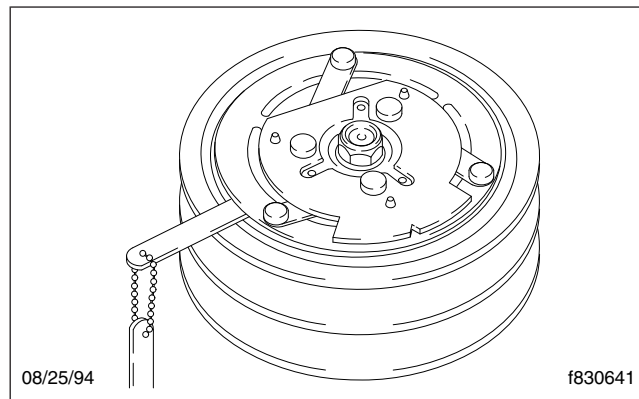

Fig. 1, Drive Plate Clearance Inspection
4. On a Sanden A/C compressor, use a feeler gauge to check that the drive plate clutch clearance is 0.016 to 0.030 inch (0.4 to 0.8 mm). See **Fig. 1**. If the drive plate clutch requires adjustment, see **Group 83** of the *Columbia® Workshop Manual*.